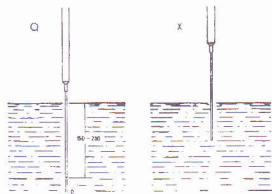

Fig.5
1. To secure accurate reading, please insert probe to the measured article about 15~20 times of O.D. of probe, while measuring internal temp. or liquid.(see Fig. 5).